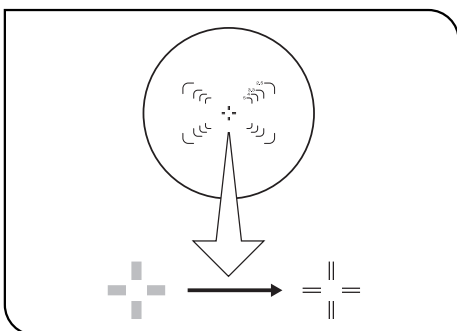

Fig. 57
5 Adjusting the Focus (Figs. 57 & 58)
☉ The finder eyepieces show four photo masks. The numbers given to the masks correspond to the magnifications of the photo eyepiece. (Fig. 57)
1. Adjust the diopter of the eyepieces and focus on the photo masks in advance. Focus so that the double crosslines are sharply visible as two distinct lines. (Fig. 57)